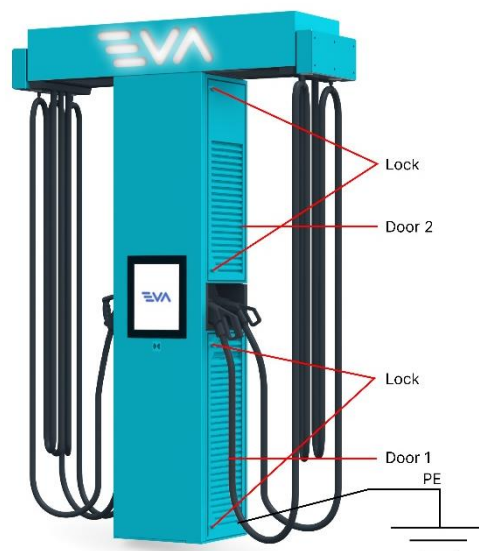

Figure 5.12. Location of doors and locks in the station
4. Open the Door 1 (use Locks) (fig. 5.12).